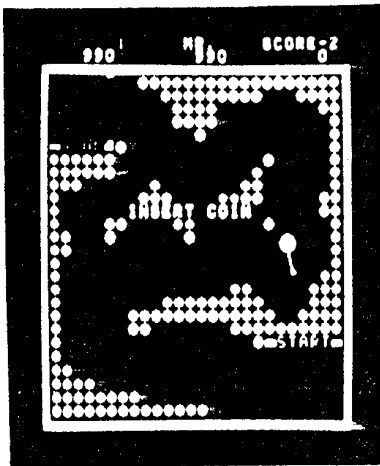

Fig. 15
- ② The LEVEL-1 display will appear and the characters "INSERT COIN" at the top of the center part of the screen will flash. The computer controlled balloon will move through the field from the START position to the goal (Fig. 15).
- ③ When the balloon enters the goal, the display of " 1 " will reappear.